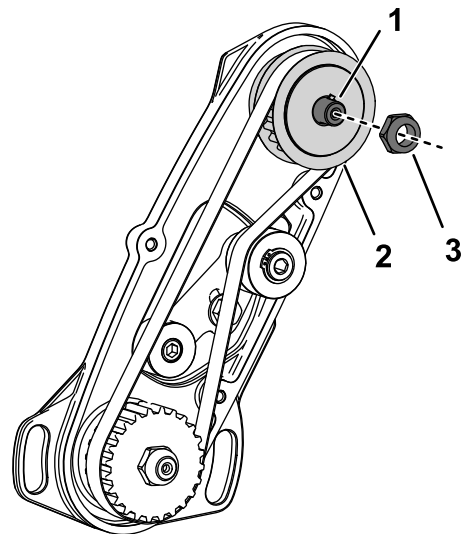

Figure 7
3. While securing the drive pulley from movement, remove the nut from the reel-drive shaft (Figure 7).